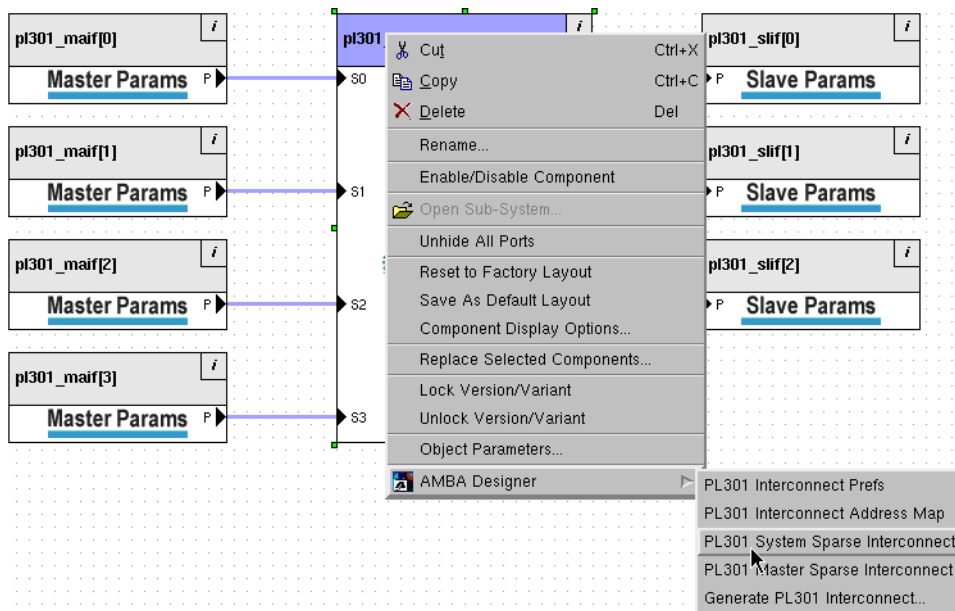

Figure 4-18 Accessing the sparse interconnect
2. Select **AMBA Designer → PL301 System Sparse Interconnect** from the context menu, as Figure 4-18 on page 4-19 shows.